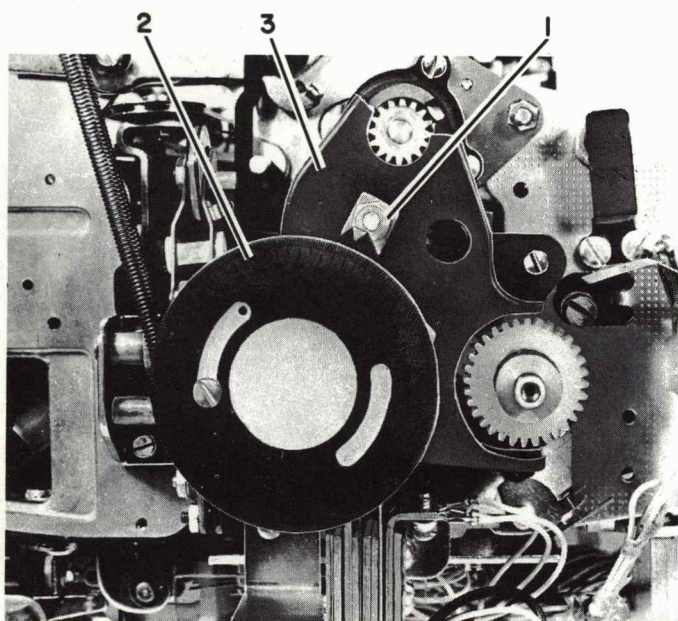

FIGURE 1. Cycle Clutch and Cycle Shaft Removal
3. Remove the degree wheel pointer (#1, Figure 1).
4. Remove the degree wheel (#2, Figure 1).
5. Remove the gear guard (#3, Figure 1).